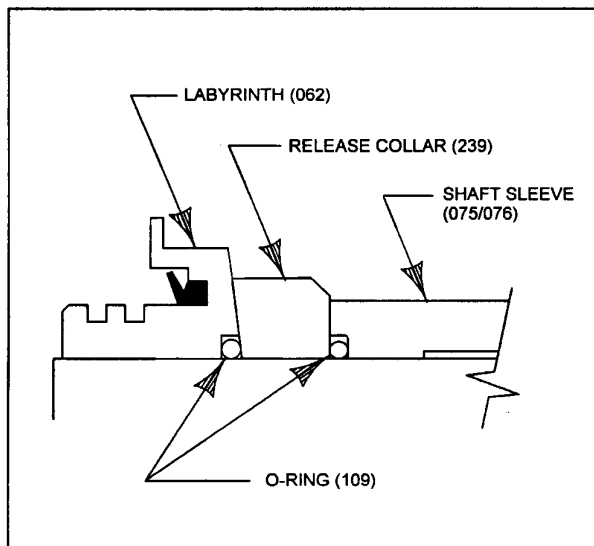

Figure 5-6 Release Collar Side Show
1. Check to ensure that the RELEASE COLLAR O-RING (109) has been installed on the shaft and slid up to the labyrinth.
2. Install the release collar with the tapered side toward the labyrinth and the flat side toward the shaft sleeve (see Figure 5-6).